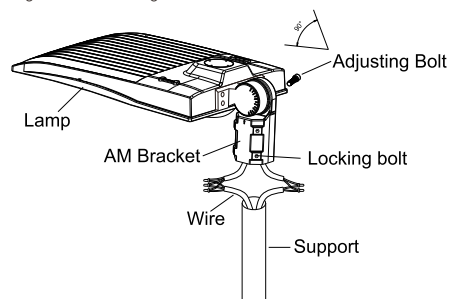

Figure 1
1. ADJUSTABLE FITTER MoUNTING (AM)
Step 1: Loosen the four bolts on AM bracket, connect the wires correctly, and pull the wires into the poles. (Figure 1)
Notice: Adjustable angle is 0-90° (Figure 1)